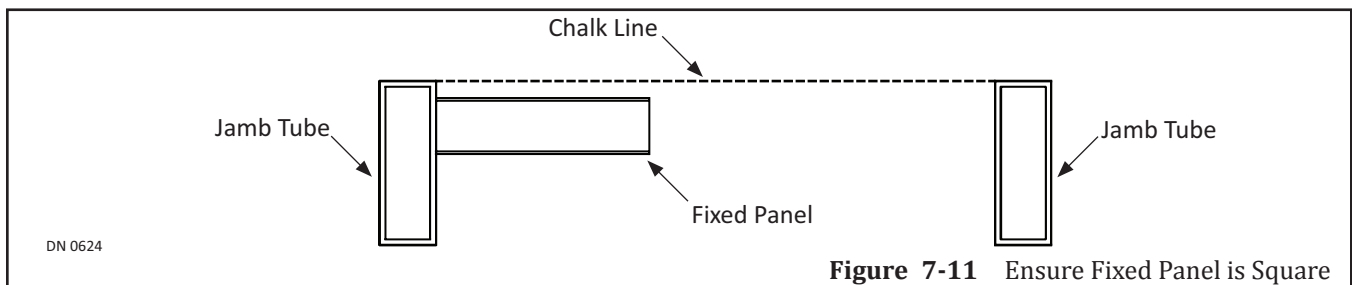

Figure 7-11 Ensure Fixed Panel is Square
12. Snap a chalk line between Jamb tubes in front of Sidelite Panel. Please see Figure 7-11.
13. Secure the Fixed Sidelite Panel to the Mounting Brackets with (3) 1/4-20 x 1/2 inch Flat Head Screws. Please see Figure 7-11.